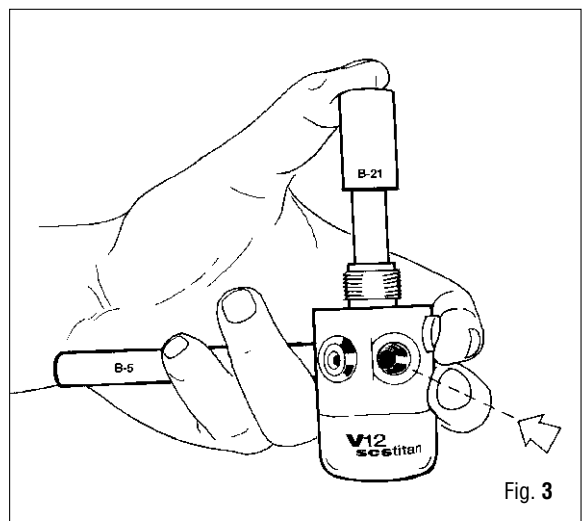

Fig. 3
5. Locate special tool (B-21) on First Stage seat connector (75) and exert a slight pressure. Inject compressed air (less than 7 bar - 101.5 psi) through a low pressure port (3/8"). (Fig. 3)